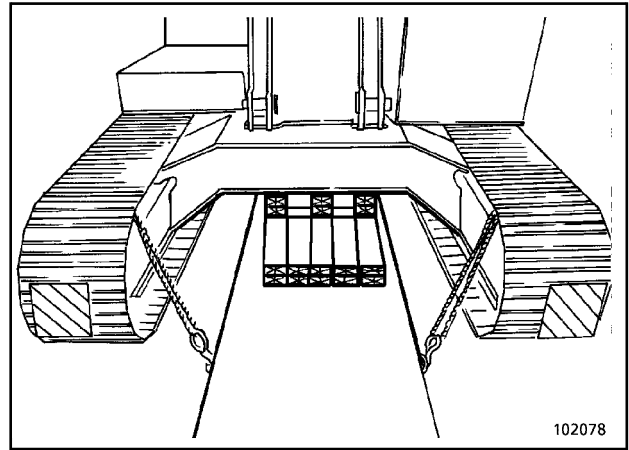

Fig. 3
- Couple the tractor to the low-bed trailer and raise the platform. The excavator is raised at the same time by the supporting timbers, so that the crawler tracks are clear of the ground (Fig. 3).
- Secure the excavator with suitable means (chain hoists, wire ropes, chains, turn-buckles) (Fig. 3).